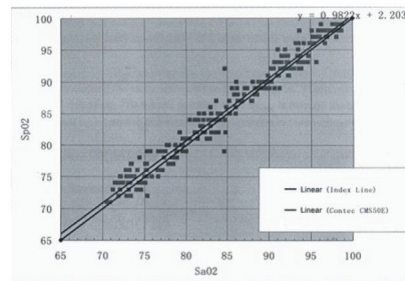
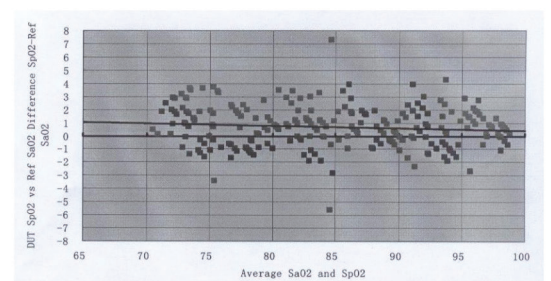

Figure 2 SpO2 regression plot
Figure 3 Bland-Altman plot
- 5) **Measurement Accuracy:** ±2% in stage of 70%-100% SpO2, and meaningless when stage being smaller than 70%. ±2 bpm or ±2% (select larger) for Pulse Rate. Clinical Trial: SpO2 regression plot & Bland-Altman plot, Refer to Figure 2 & Figure 3.